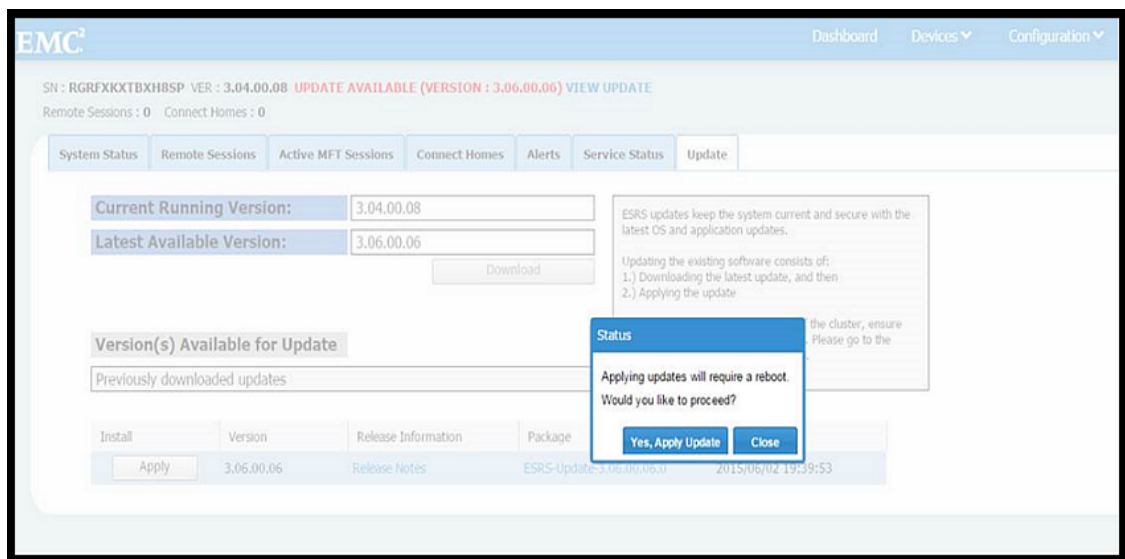

Figure 107 Applying Update
7. In the status pop-up window, click **Yes, Apply Update**, as shown in Figure 107 on page 82.